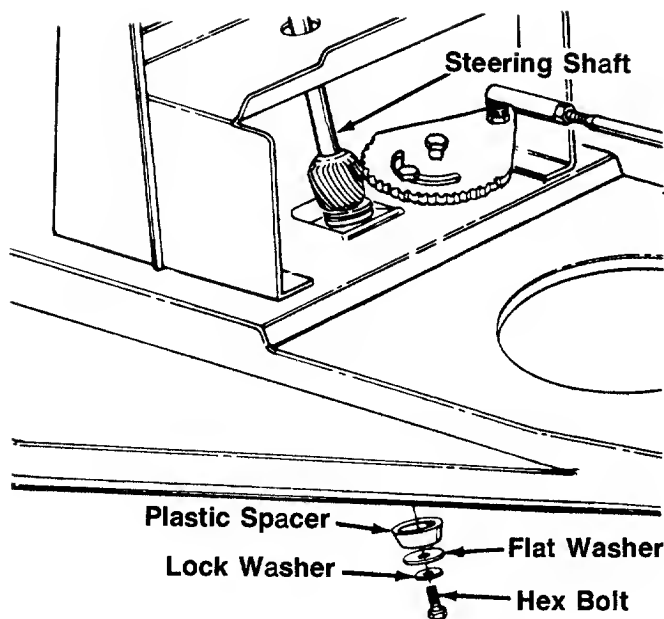

FIGURE 6.
4. Secure bottom of the steering shaft as follows. See figure 6.